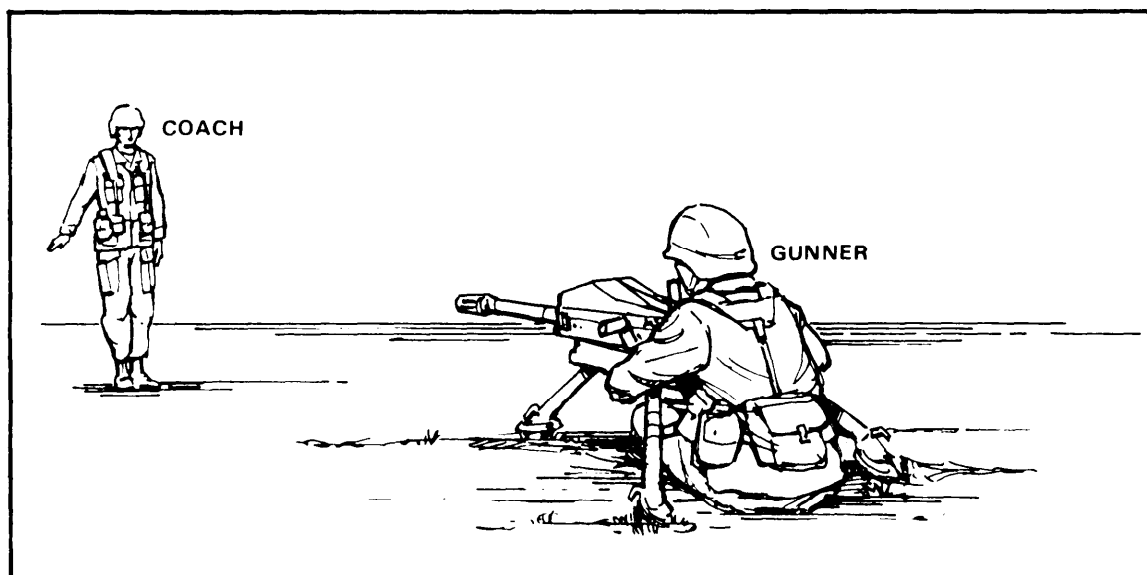

Figure 5-11. Coach and gunner exercise.
(1) The first exercise gives the gunner practice in manipulation. The coach stands ten paces in front the gun and uses hand signals to show the direction in which the gunner is to move the muzzle (figure 5-11). The gunner works the handwheel to manipulate the gun. The coach observes and makes needed corrections. When the gunner reacts quickly and can manipulate the gun as he has been shown, his instruction may continue.